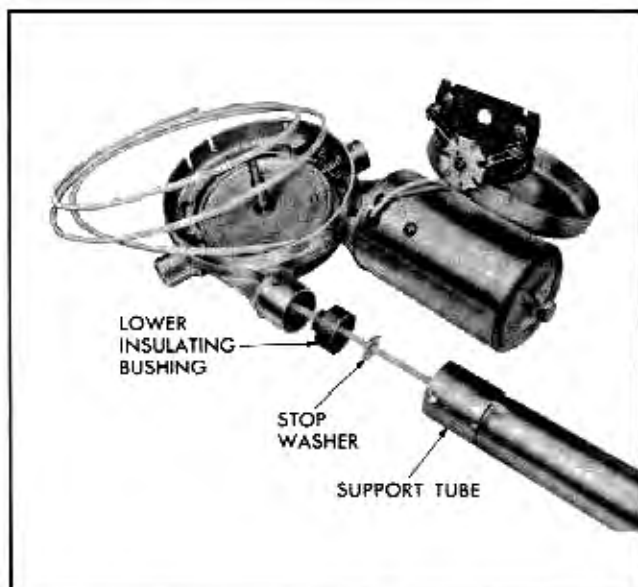

Fig. 14-7 Assembly of Mast Section to Housing
10. Make sure lower insulating bushing and stop washer are in place and push mast section into place on drive housing (Fig. 14-7).